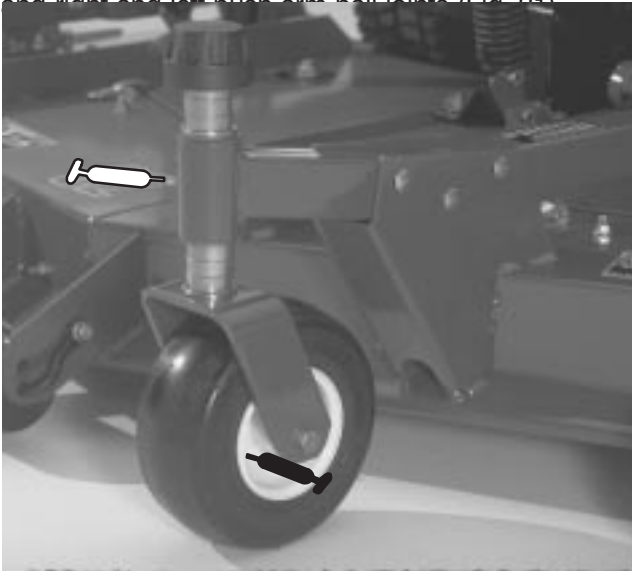
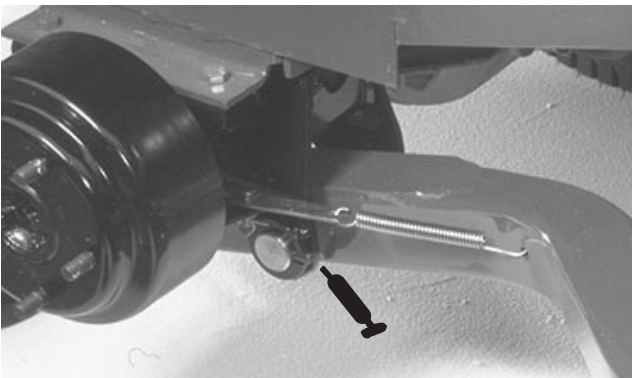
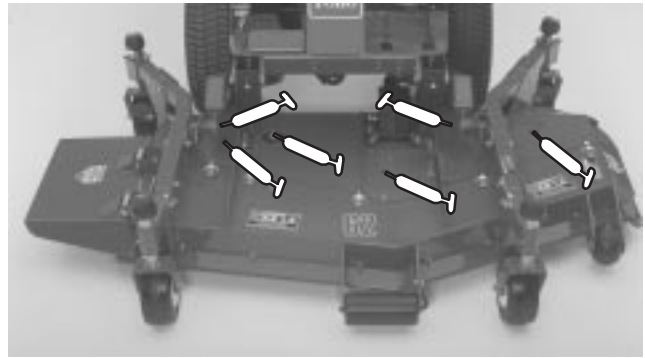

Figure 19
Figure 20
Figure 21
GREASE BEARINGS, BUSHINGS AND GEAR BOX (Fig. 19–22)
1. The cutting unit has bearings and bushings that must be lubricated, and these lubrication points are: front castor spindle bushings (Fig. 19); front and rear castor wheel bearings (Fig. 19); right and left lift arm pivot pins (Fig. 20); blade spindle bearings (Fig. 21); and right and left truck arms ball joints (Fig. 21).